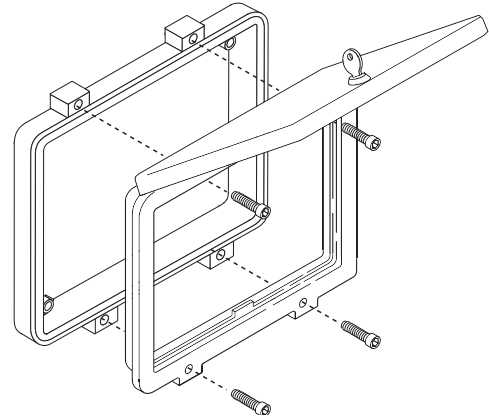

Figure 1: Attaching Cover to Backbox
1. Attach the locking cover to the open backbox with the included short screws. You can install the cover to open from the top or from the bottom. Refer to Figure 1.